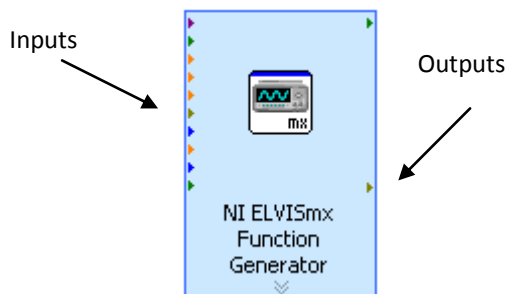

Figure 6-4, Function Generator VI
- Take a look at the blue element that has just appeared on the Block Diagram (Figure 6-4). This is an Express VI. On the left of the VI are the function's input parameters and on the right side the returned values. Move the mouse over the coloured arrows on both sides of the VI to show the name of the input and output parameters.